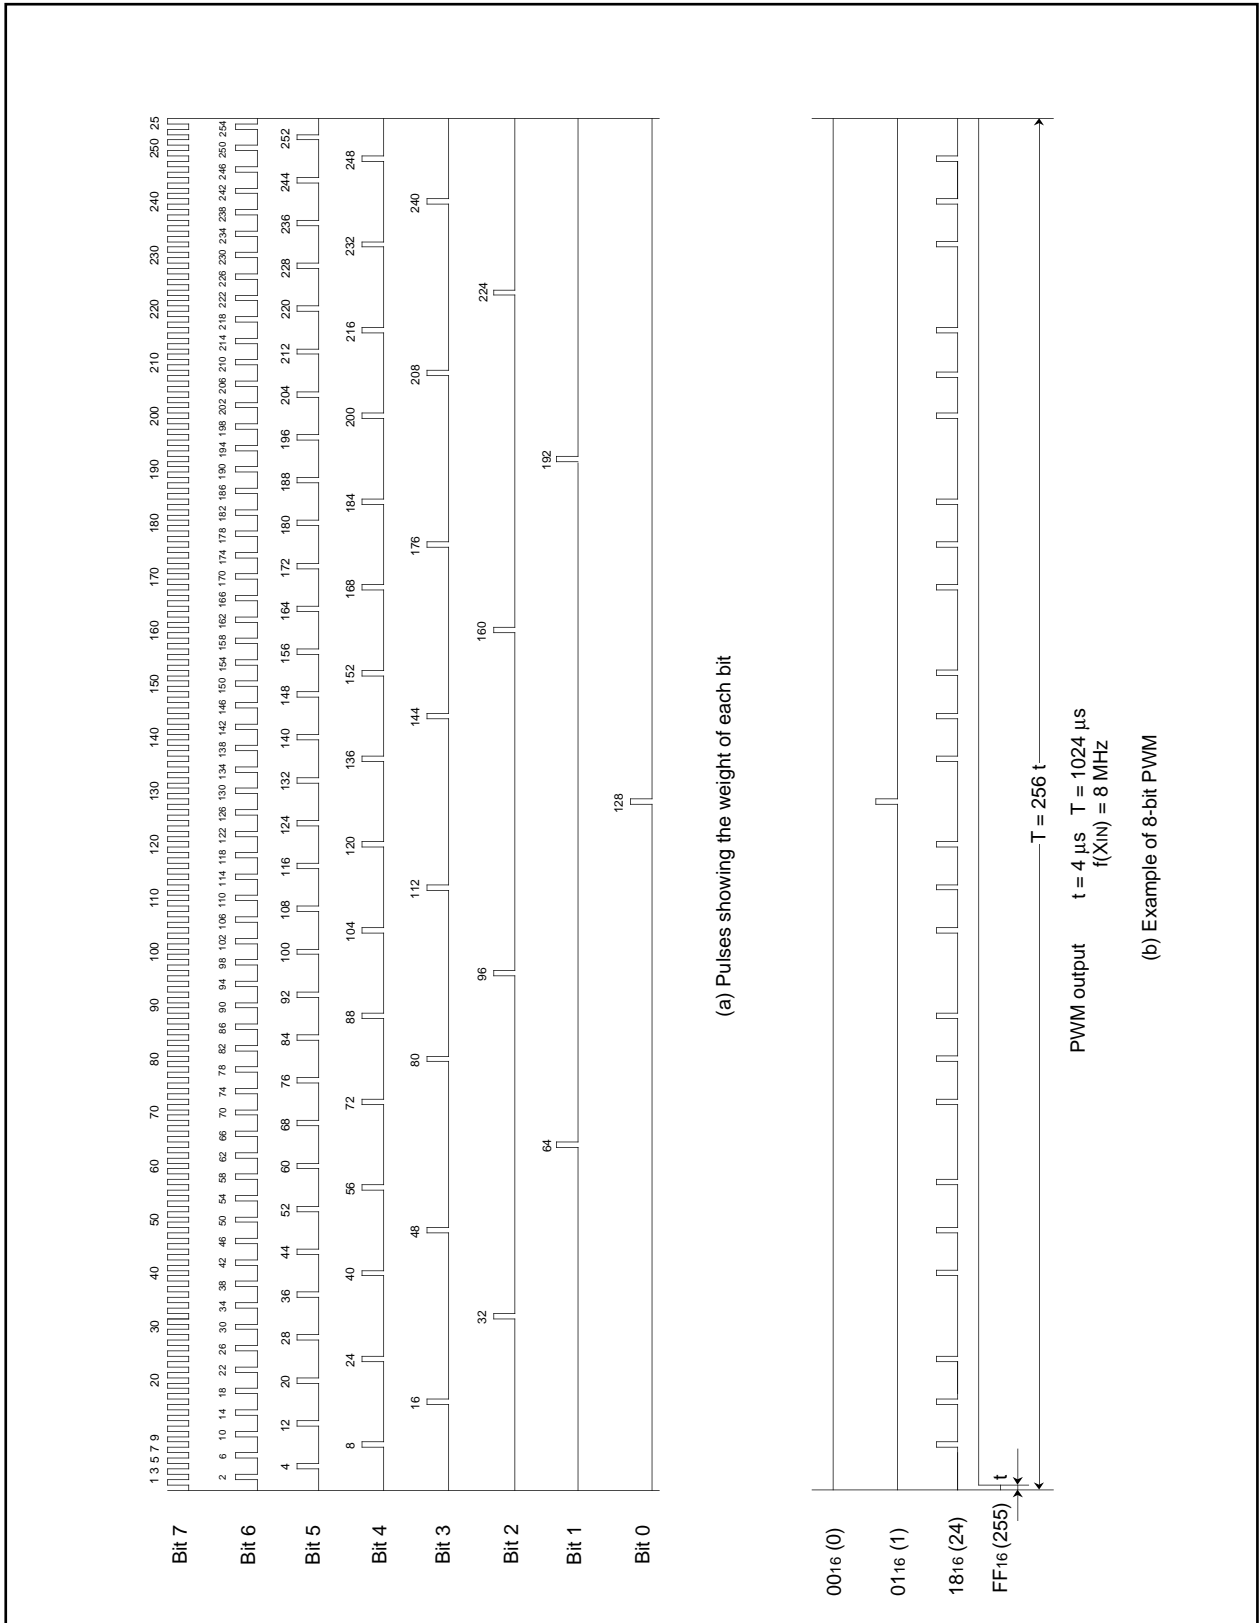
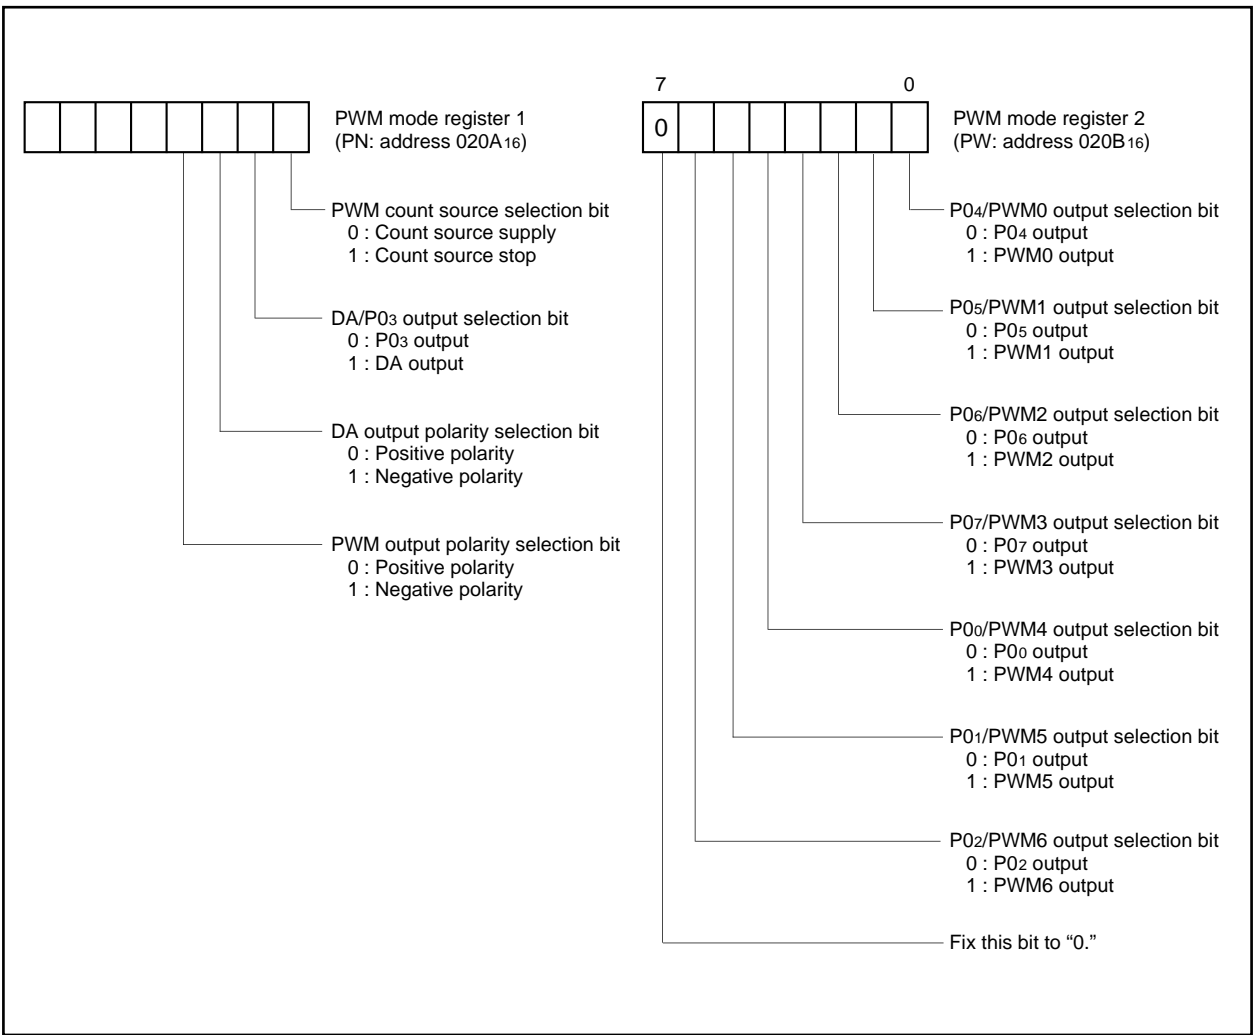

Fig. 18. 8-bit PWM Timing
Fig. 20. PWM-related Registers
Figure 18 shows the 8-bit PWM timing. One cycle ( $T$ ) is composed of  $256 (2^8)$  segments. The 8 kinds of pulses, relative to the weight of each bit (bits 0 to 7), are output inside the circuit during 1 cycle. Refer to Figure 20 (a). The 8-bit PWM outputs waveform which is the logical sum (OR) of pulses corresponding to the contents of bits 0 to 7 of the 8-bit PWM register. Several examples are shown in Figure 20 (b). 256 kinds of output (HIGH area:  $0/256$  to  $255/256$ ) are selected by changing the contents of the PWM register. A length of entirely HIGH cannot be output, i.e.  $256/256$ .